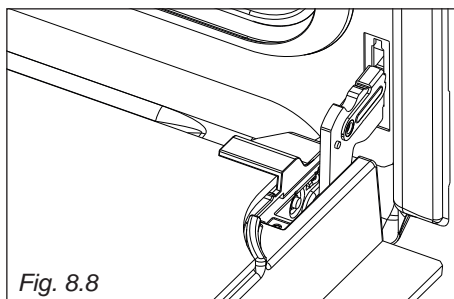

Fig. 8.8
- Open the door to the full extent (fig. 8.8).